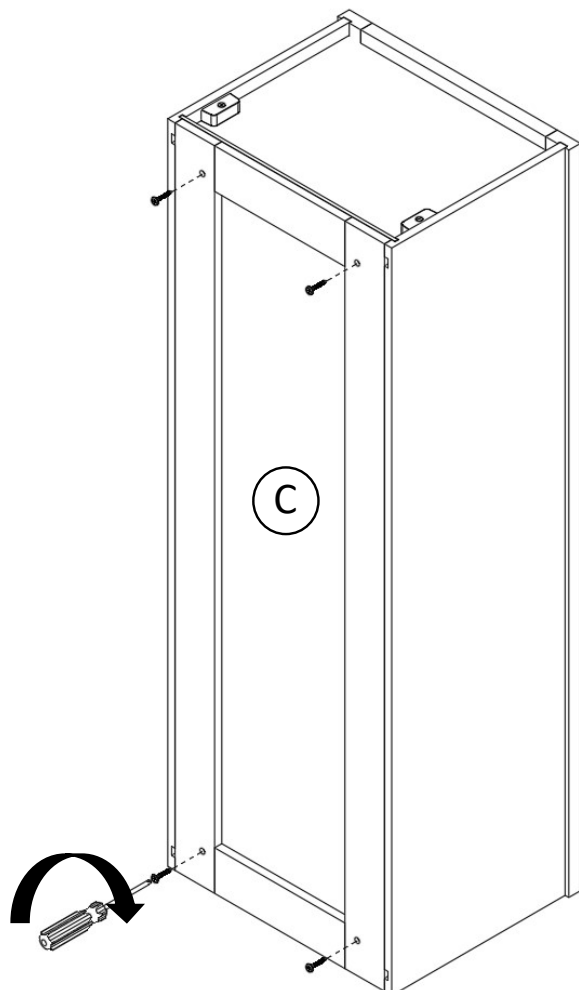

Figure 4
Attach the Back Panel (C) using screws (b). (Figure 4)